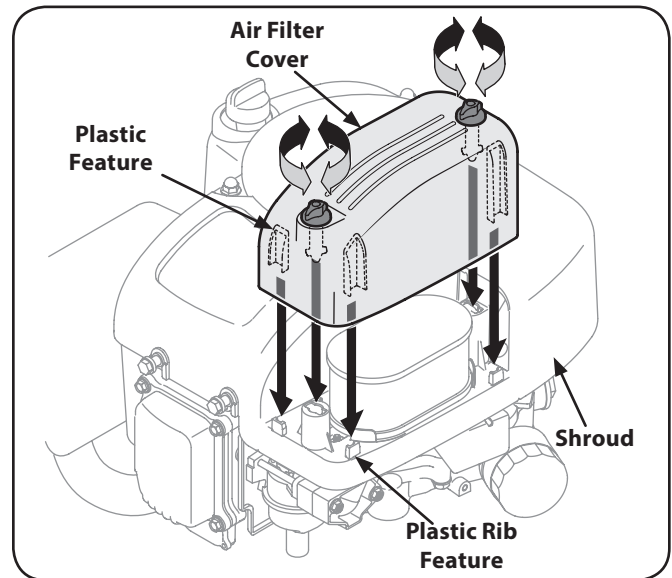

Figure 6-8
6. Attach the air filter cover, making sure to align thumb screws and plastic rib features on the shroud to the plastic features on the air filter cover. See Figure 6-8. Turn thumb screws clockwise until snug. Check for any misalignment.